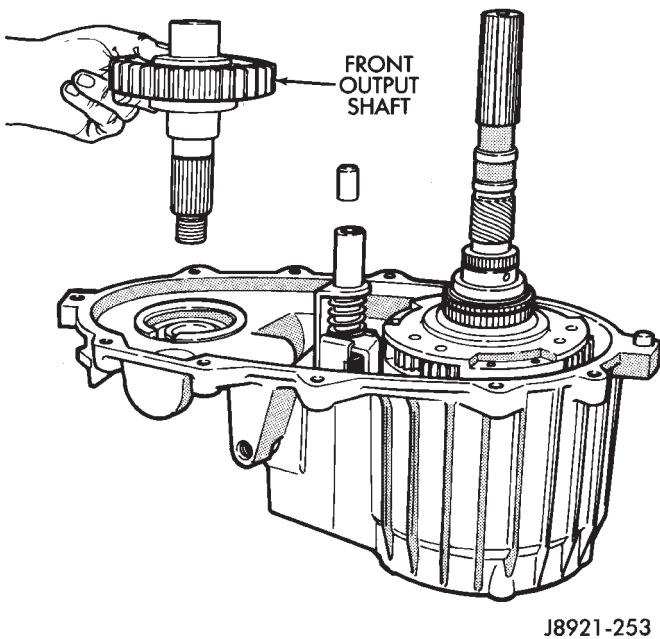

Fig. 12 Removing Front Output Shaft
(21) Remove front output shaft (Fig. 12).